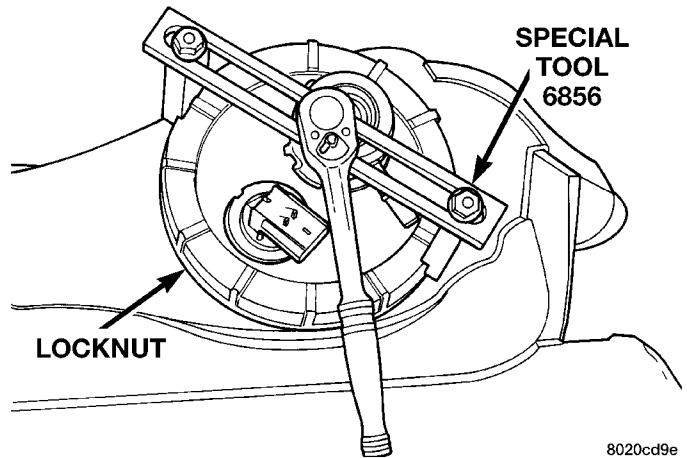

Fig. 47 Fuel Reservoir Module Lock Nut Removal
(1) Disconnect negative cable from battery.
(2) Drain fuel tank dry into holding tank or a properly labeled **diesel** safety container.
(3) Raise vehicle on hoist.
(4) Use a transmission jack to support the fuel tank. Remove bolts from fuel tank straps. Lower tank slightly.
(5) Clean area around fuel reservoir module and tank to keep dirt and foreign material out of tank.
(6) Disconnect fuel lines from fuel module by depressing quick connect retainers with thumb and fore finger.
(7) Slide module electrical connector lock to unlock.
(8) Push down on connector retainer and pull connector off module.
(9) Using Special Tool 6856, remove plastic locknut counterclockwise to release pump module (Fig. 47).